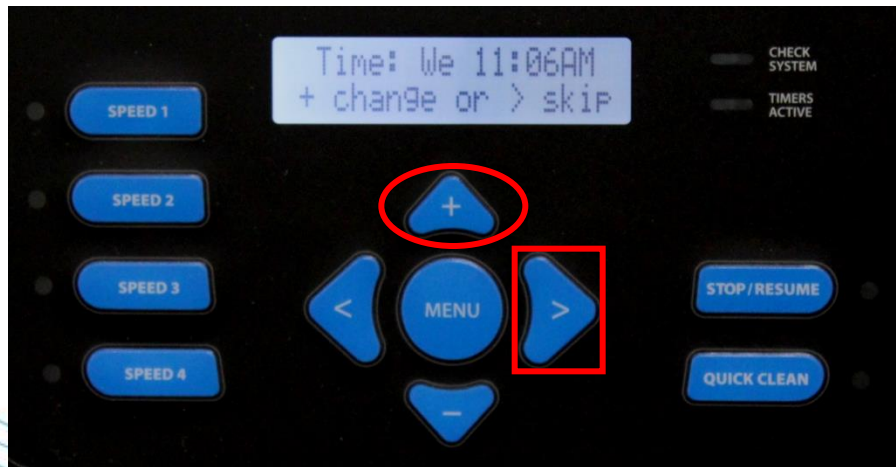

Figure 29
6. This screen allows you to change the day and time by pressing the  button to access or skip by pressing the  button (fig 29).